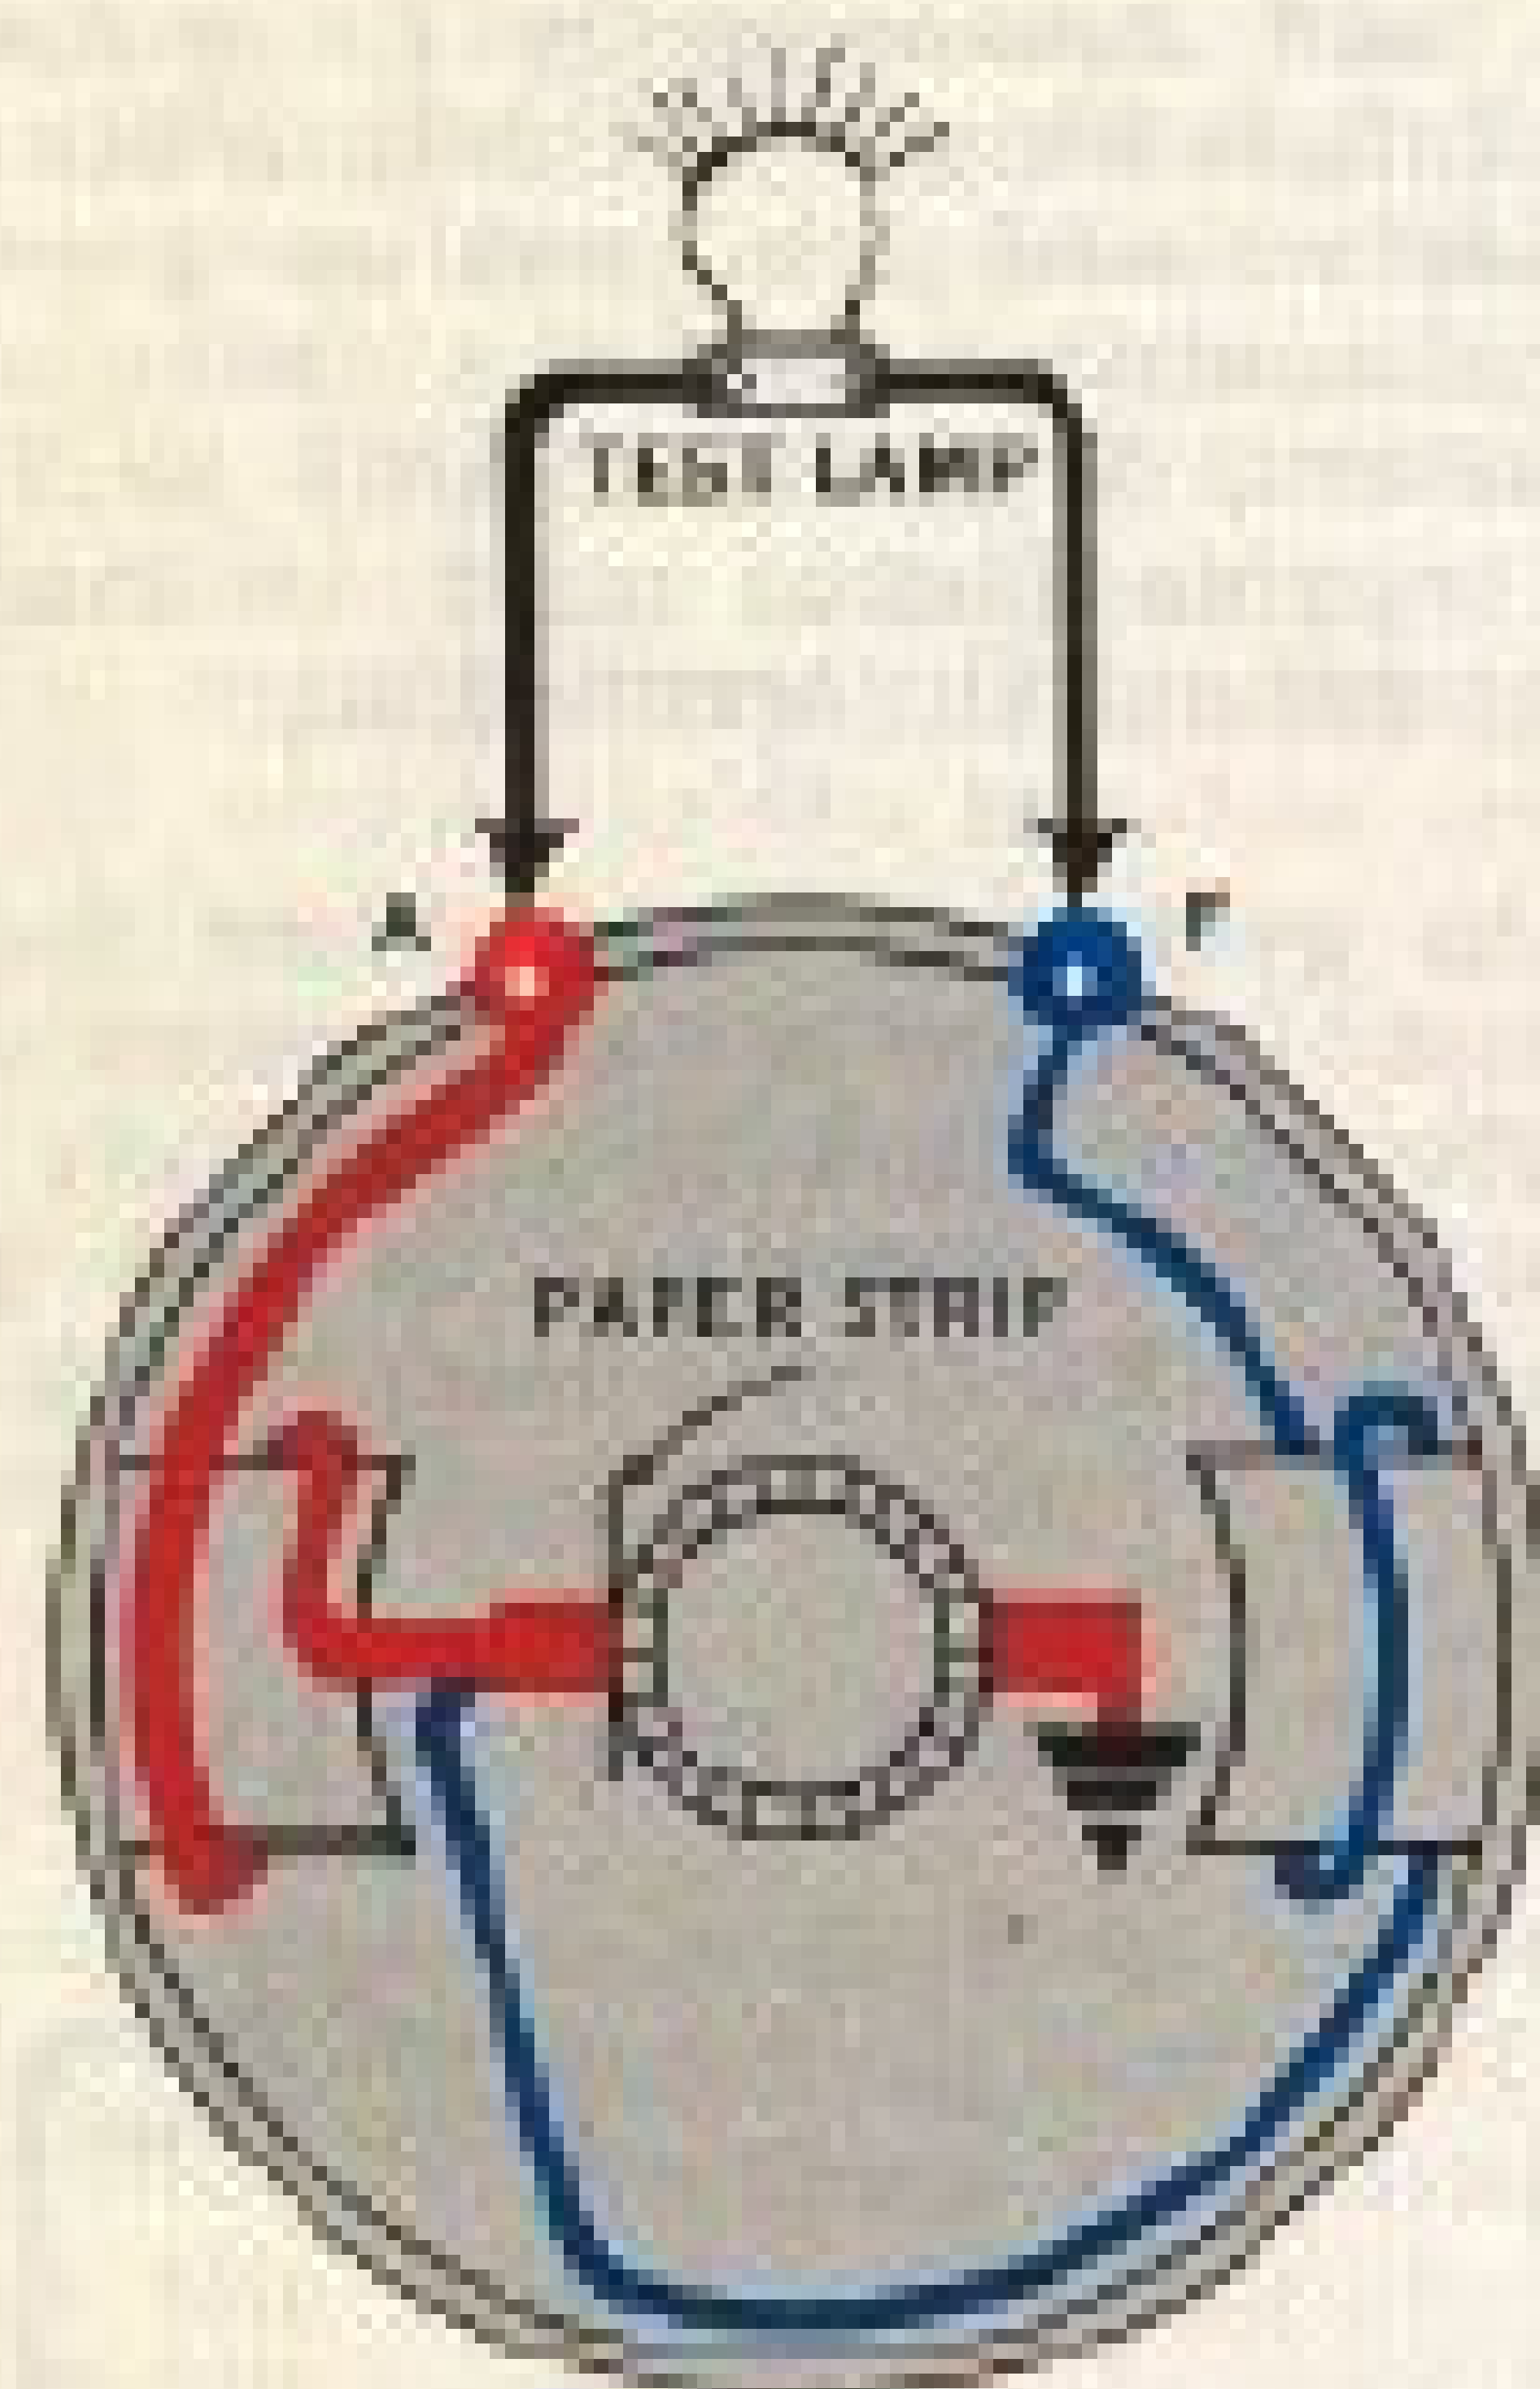

Figure 9—Check for open field coils. On three terminal motor-generators, connect from "F" terminal to "N" terminal with test lamp probe.
2. If the unit is not grounded, check the field for an open circuit (Fig. 9) with a test lamp. The lamp should light when one test point is placed on the field terminal and the other is placed on the armature terminal. On three terminal motor-generators connect test lamp from the field terminal to the motor terminal. (Paper strip between insulated brush and commutator.) If it does not light, the circuit is open. If the open is due to a broken lead or bad connection, it can be repaired but if the open is inside one of the field coils, the coil must be replaced.